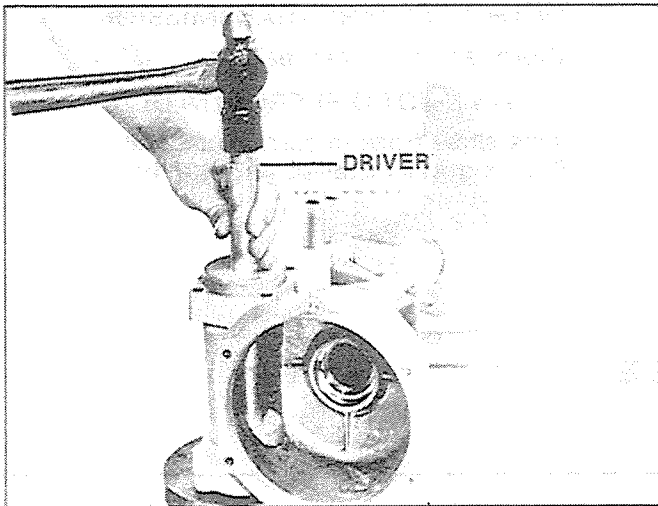

Figure 15
5. The worm bearing cups are installed by using a bearing cup driver as shown in Figure 15.